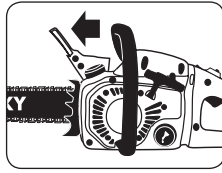

Fig. 7B
2. The chain brake is engaged (chain is stopped) when brake lever is in forward position. You should not be able to move chain (Fig. 7B).